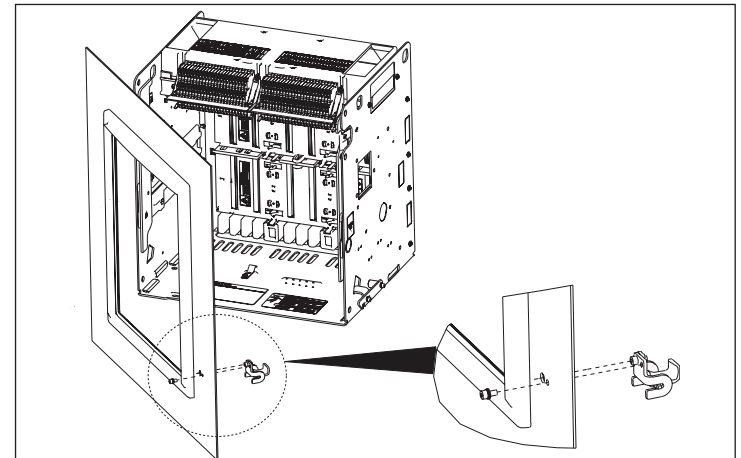

Figure 8.
Step 4: From inside the door, align the latch assembly to the holes as shown in **Figure 8**. Install the M5 screw and washers from the outside of the door. Torque the mounting screw to 35 in-lbs (4 N-m).